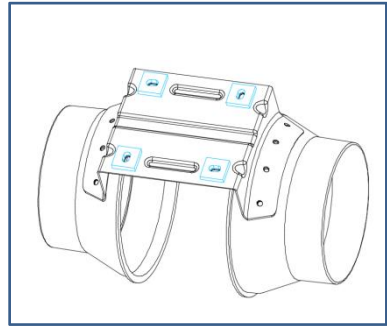

Fig.6.
- 2、 Paste the cushion onto the flange bracket to ensure that the hole of the cushion is aligned with the hole of the flange bracket. See the (Fig.6.)